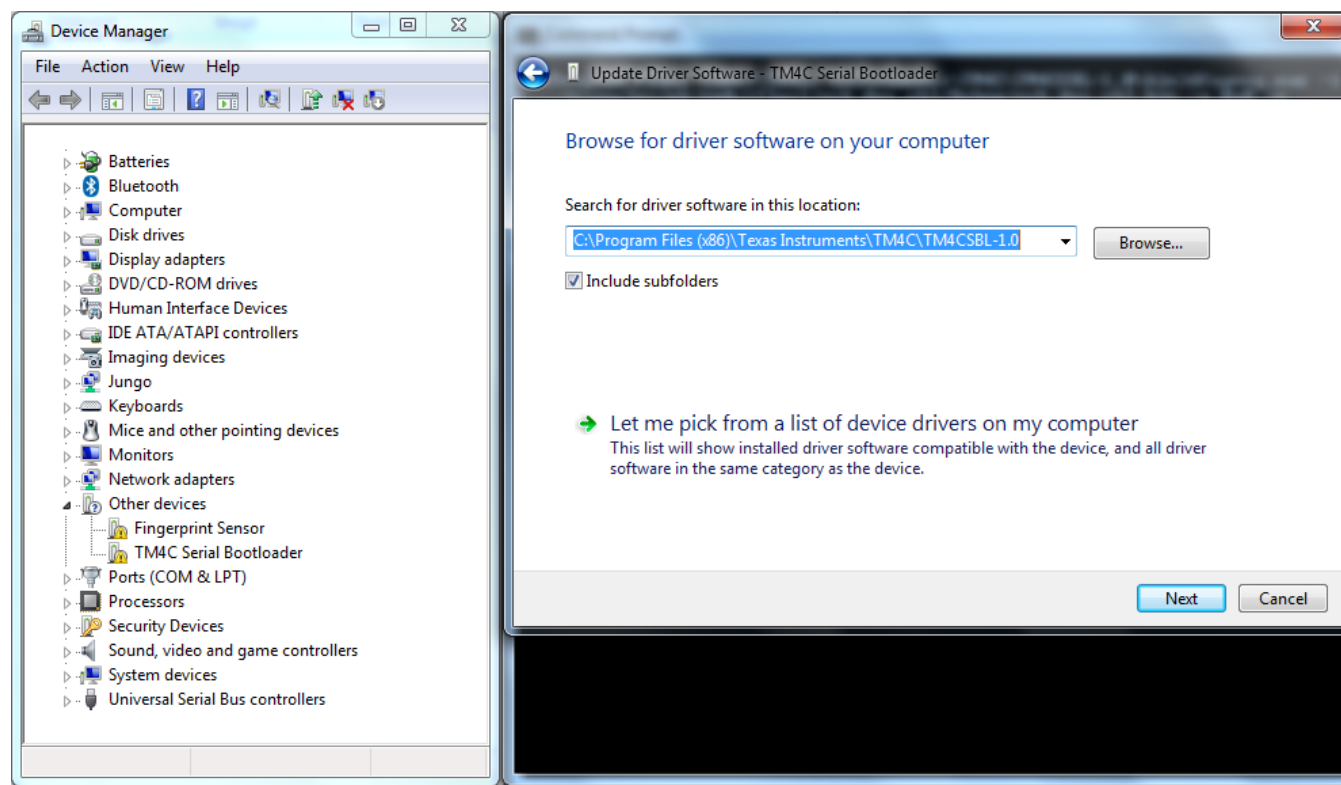

Figure 34. Updating the Device Drivers
6. Right click on the Device Manager entry for “TM4C Serial Bootloader”, then click on “Update Driver Software”. Navigate to the path where the installer has kept the drivers, as shown in Figure 34.